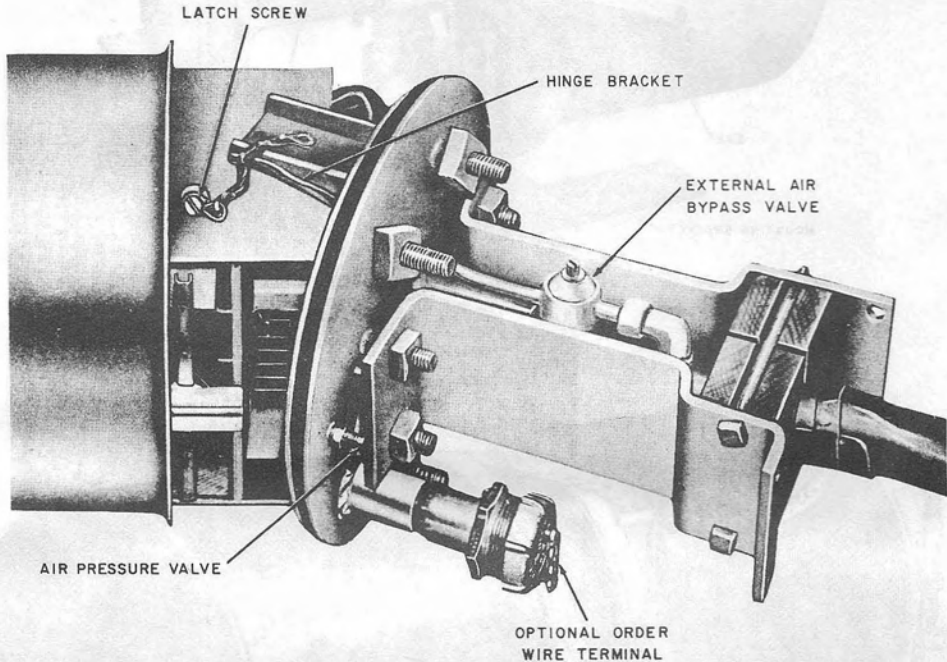

Fig. 4—Repeater Retainer Swung 30 Degrees
(3) On apparatus cases equipped with a hinged equipment retainer (Fig. 4), a clearance of 4 inches is required between end of the container and the nearest obstruction. This permits removal of the latch pins on the sides of the equipment retainer, enabling the retainer